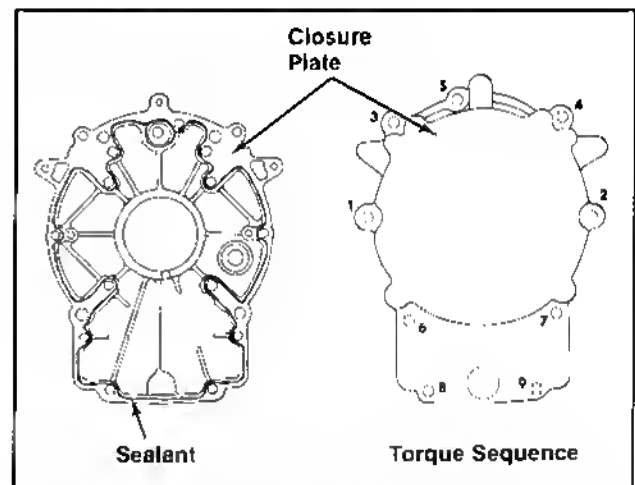

Figure 11-27. Closure Plate Sealant Pattern/Closure Plate Fastener Torque Sequence.
- When reinstalling a closure plate originally installed using sealant or installing a service replacement closure plate kit, apply a new bead of sealant to the closure plate as shown in Figure 11-27.
3. Apply a 1/16" bead of sealant to the closure plate as shown in Figure 11-27. Follow the sealant manufacturer's recommendations regarding setting.
4. Install the closure plate and hex. flange screws. Torque screws to 150 in. lb. in the sequence shown in Figure 11-27.